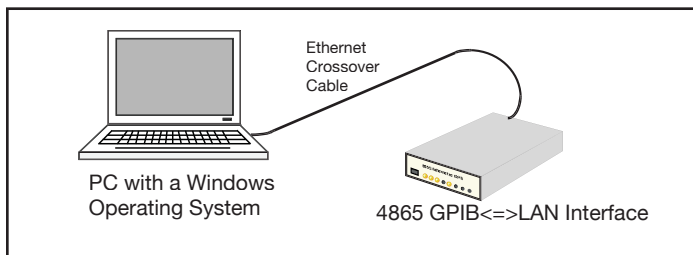

Figure 2-2 N4865A Connected to PC with a Crossover Cable
1. Temporarily disconnect the computer from the company network and use the supplied Ethernet Crossover Cable to connect the computer to the unit as shown in Figure 2-2. This will eliminate any potential network conflicts while configuring the unit. Use the supplied USB power adapter to power the N4865A.